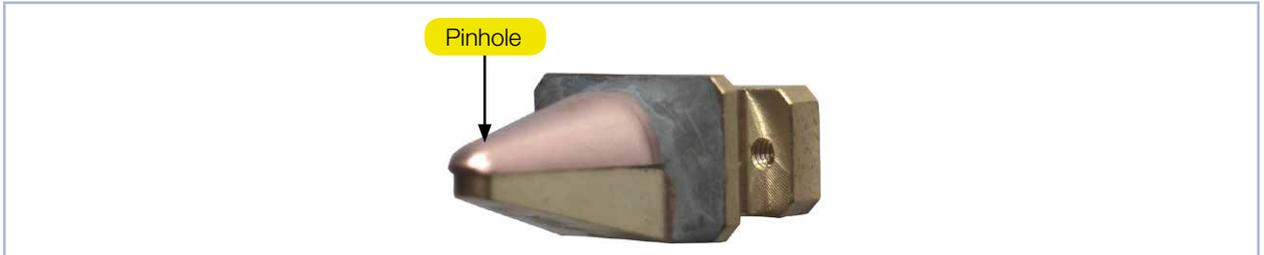

Fig. 18.3: Inlet aperture (pinhole) in the measuring tip
1. Insert the new measuring tip (note that the inlet aperture is located on the convex side, see Fig. 18.3 on page 53) or turn the measuring tip around.